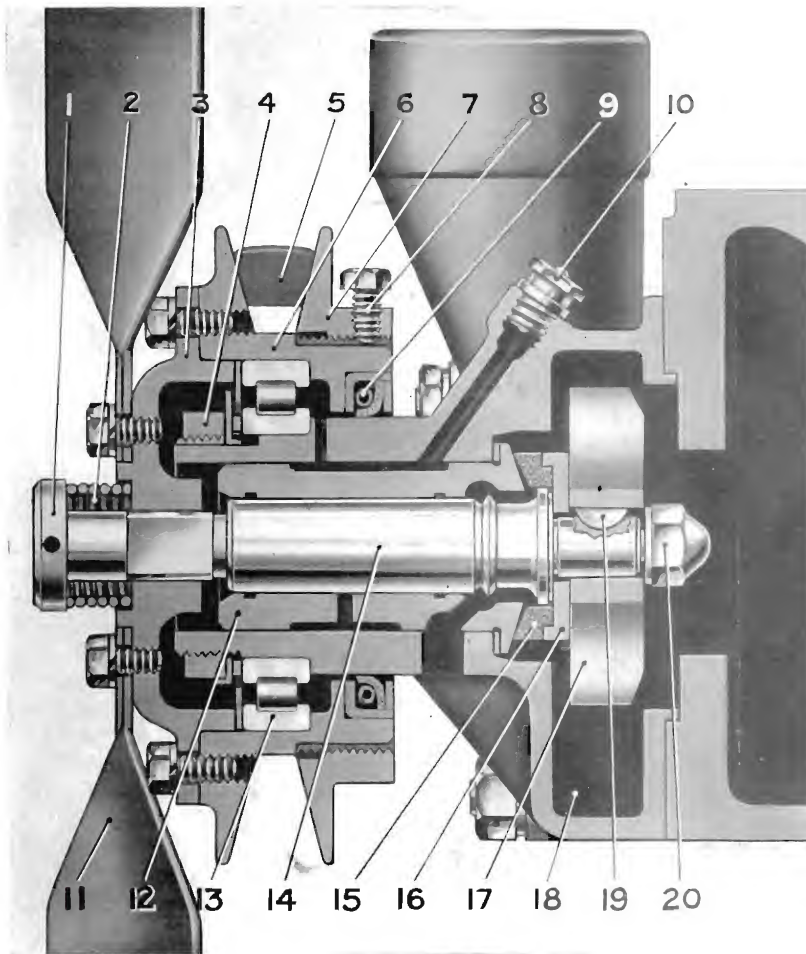

Fig. 28.
The fan and water pump are secured to the cylinder head and are driven by an endless belt. The belt can be tightened by slacking the locking screw (8), Fig. 28, in the small rear flange (7) and screwing up the large flange (6). Do not overtighten. There